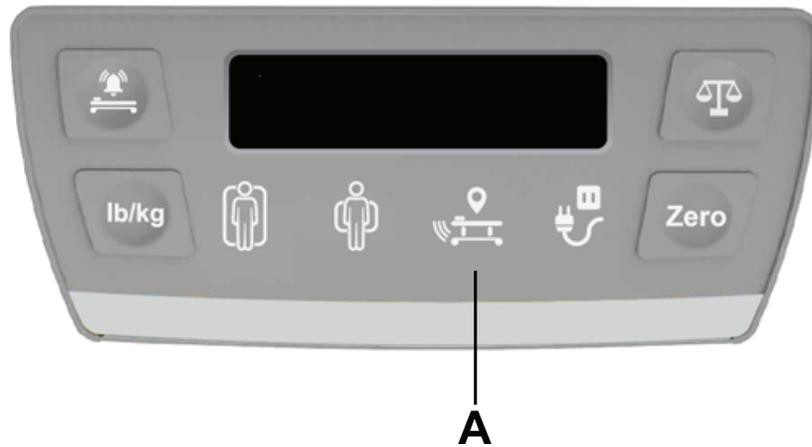

Figure 7 – Location icon
The **Location** icon (A) illuminates green when the product is connected to the iBed Locator (Figure 7).